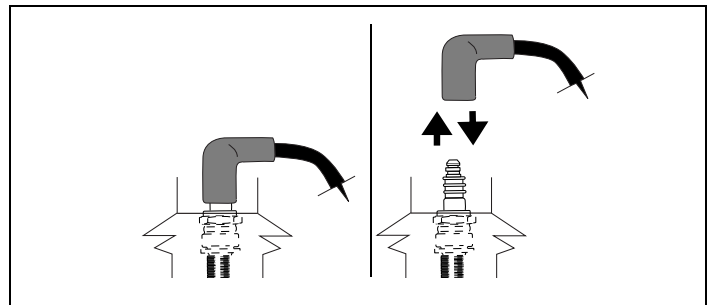

Figure 49. Disconnecting/Connecting Spark Plug
13. Carefully disconnect spark plug wire from grounding post, if provided. See Figure 49. See "G. Avoid Accidental Starts" instructions on page 2. Afterward, continue reading instructions below.